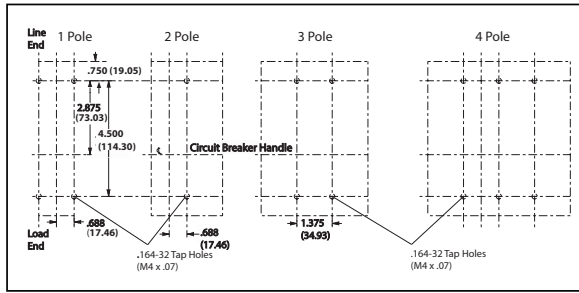
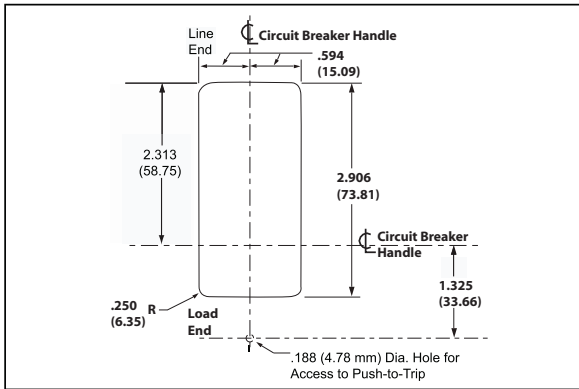

Figure 2. Circuit Breaker Mounting Bolt Drilling Plans
Figure 3. Circuit Breaker EscutcheorDimensions
- For individual mounting panels, make sure that mounting panel is predrilled using bolt drilling plan (Fig. 2). For panelboard mounting, only load end support mounting holes are required. For deadfront cover applications make sure panel cover is cut out to correct escutcheon dimensions (Fig.3).